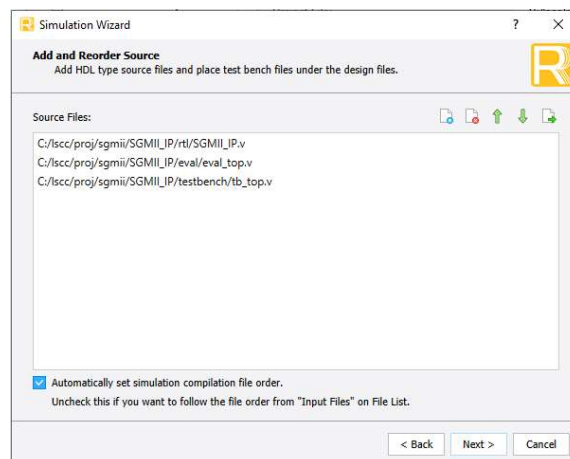

Figure 3.6. Adding and Reordering Source
3. Click **Next** to open the **Add and Reorder Source** window as shown in Figure 3.6.